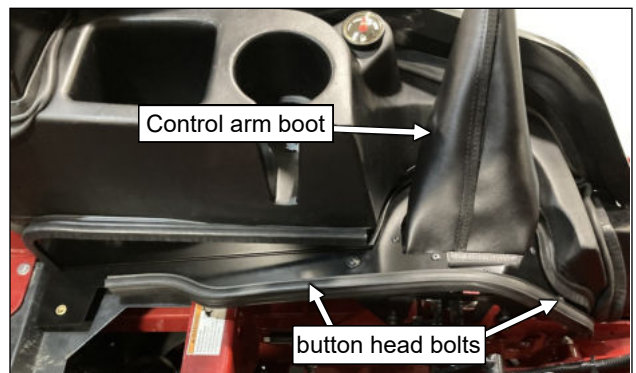

Fig. 10.10 (Left side under-seat panel)
10.10 See fig. 10.10. Loosen the Velcro at the top of the control lever boot on the left under-seat panel. Slide the boot over the left control lever and into place against the left fuel tank. Secure with two 1/4" flanged button head bolts and tighten snug. Close the Velcro around the control arm.